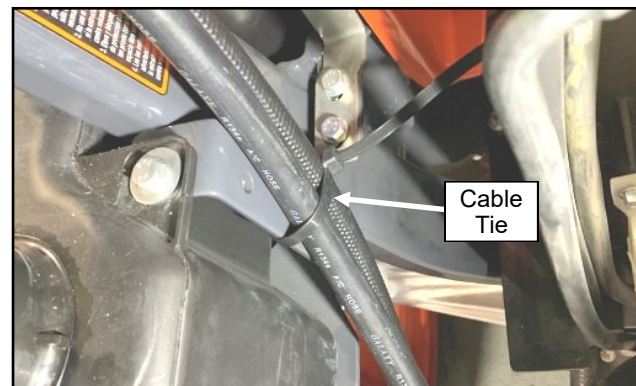

Fig. 7.2 (Cable Tie Hoses)
- 7.2 See fig. 7.2. Secure both A/C hoses to the vehicle frame using a cable tie as shown. Ensure that the hoses will not contact any sharp edges.